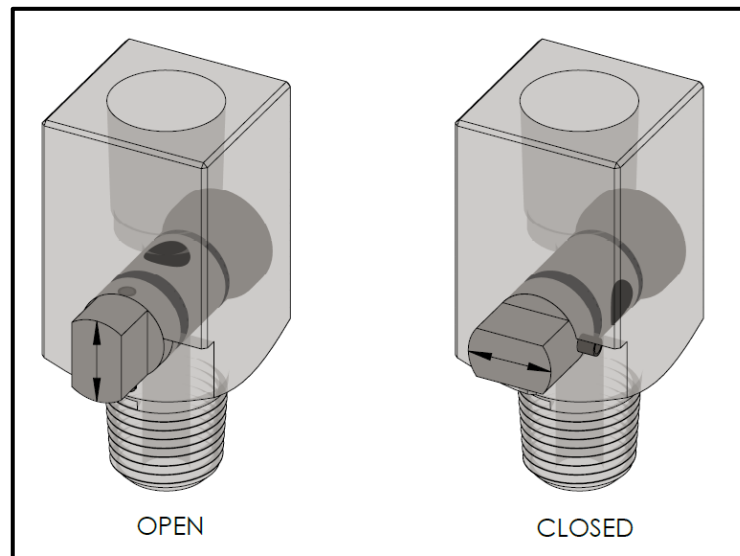

Figure 1
3. Open all the sealant injection ports slightly. Remove all the pipe plugs from connections that don't have sealant injection ports. Close the bottom sealant injection port that is being used first. Figure 1 shows the correct orientation for closed and open sealant injection ports.
EXCEPTION: If injecting into a PLIDCO fitting containing high temperatures or harmful contents that could cause harm to personnel, it is suggested to close all sealant injection ports except the one closest to the leak and is farthest from the personnel injecting the sealant. Figure 1 shows the correct orientation for closed and open sealant injection port.